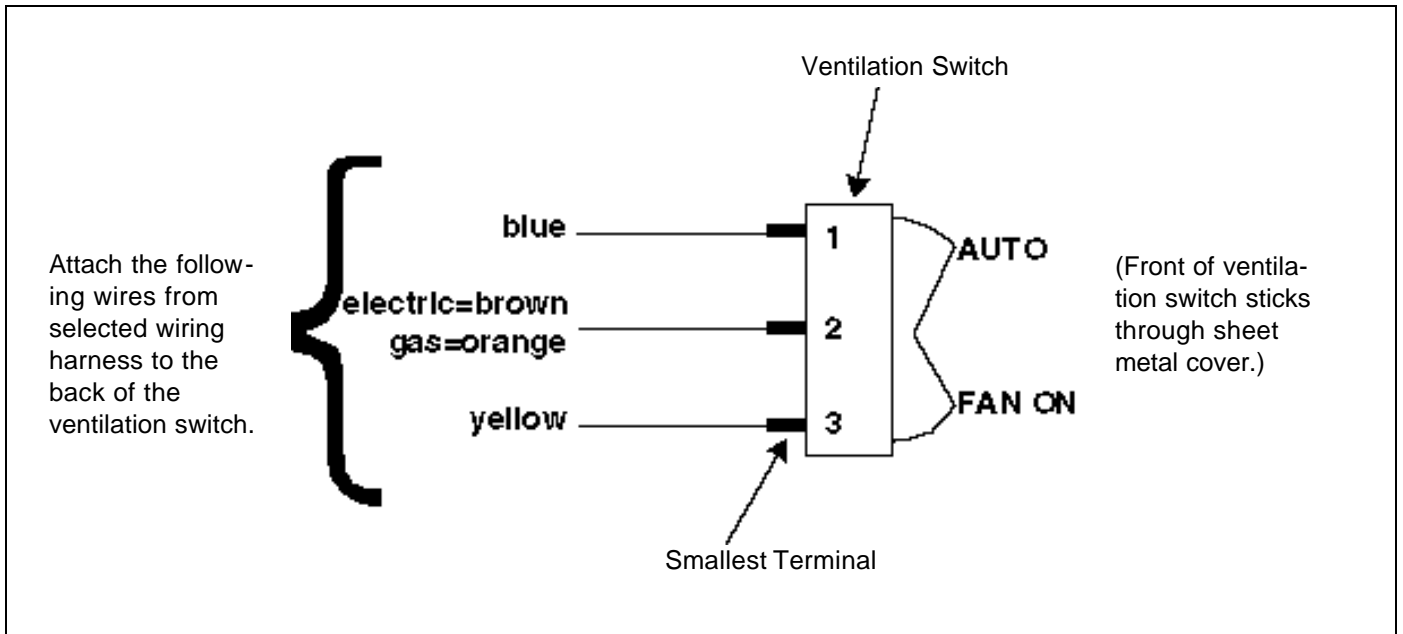

Figure 4. Switch Connection
4. Connect the loose terminals on the wiring harness to the back of the switch that sticks through the back of the sheet metal box (see Figure 4).